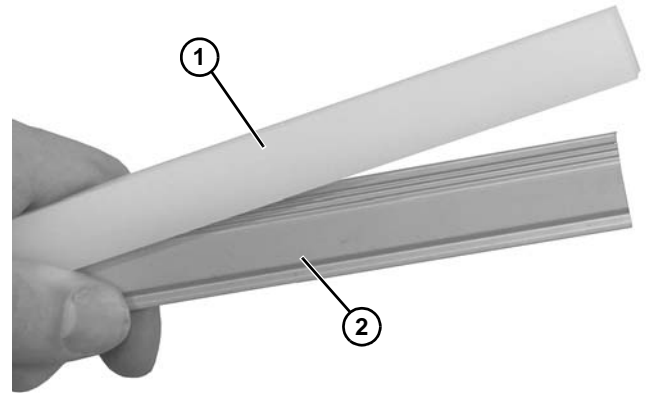

Figure 71
4. Attach slide rail (**Figure 71, item 1**) to guiding (**Figure 71, item 2**).